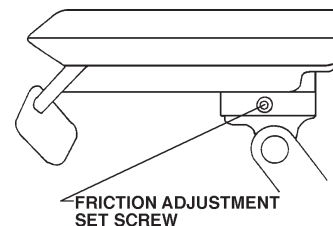

Fig.3-13 Table Rotation Friction Adjustment Set Screw
(8) Friction Adjustment set screw of table rotation (Fig.3-13)